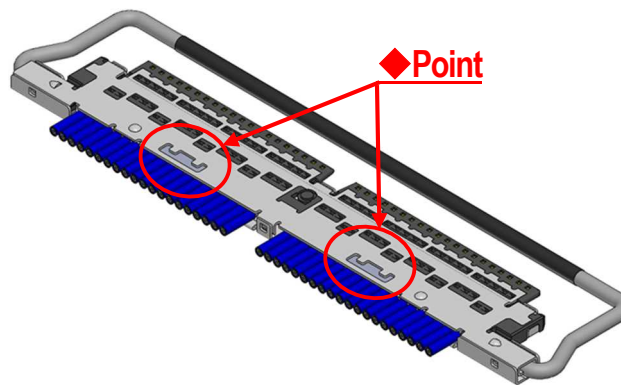

Fig.8 Soldering of SHELL-B and GND BAR
- ③ Soldering SHELL-B and GND BAR with the soldering iron at all designated points is recommended. (Fig.8◆ point)